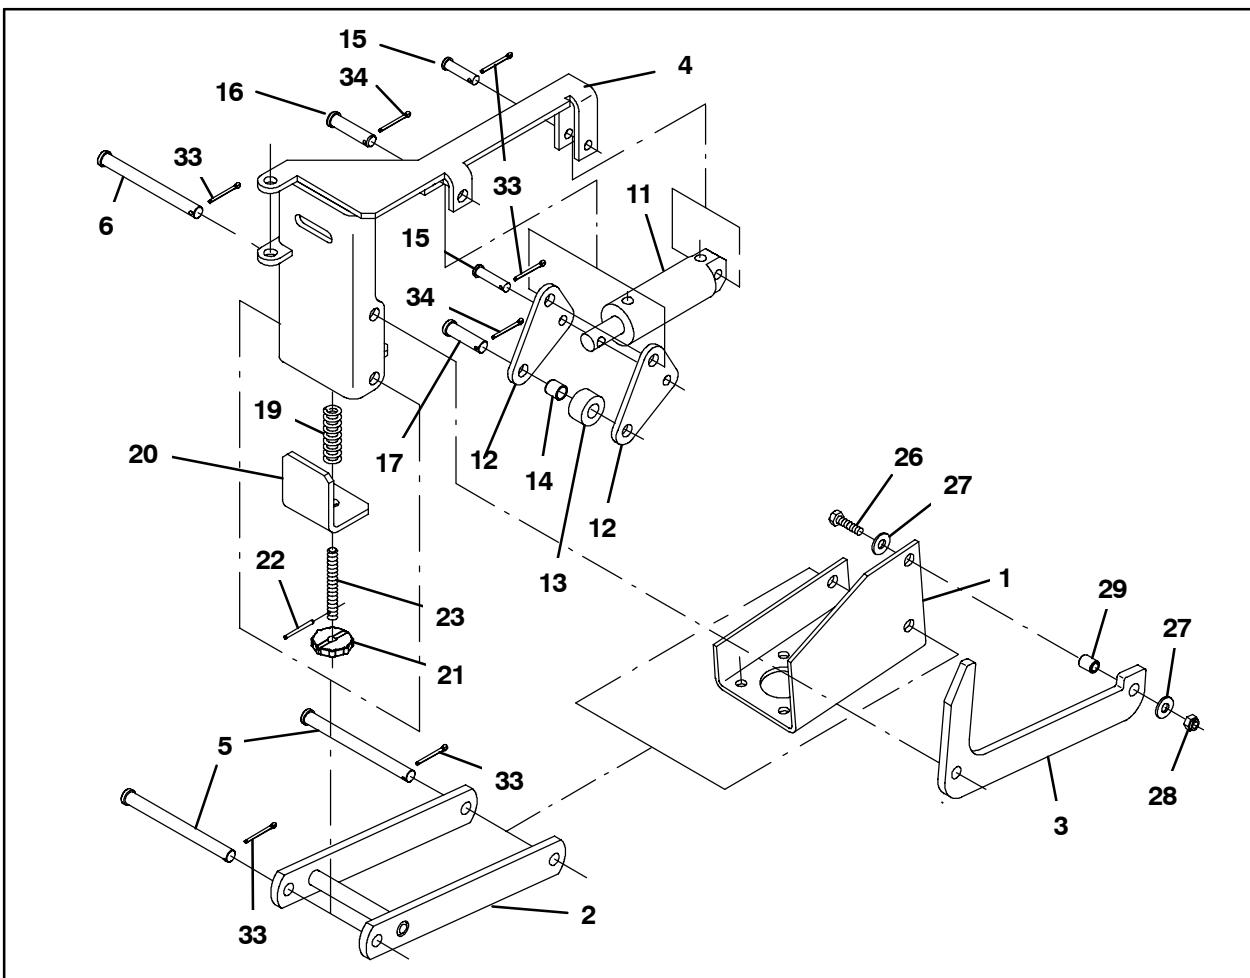

FIG. 2
3. Use a clevis pin (5) and a cotter pin (33) to install the side brush arm (2) onto the side brush motor mounting bracket (1). Refer to Fig. 2.
4. Use a hex screw (26), a sleeve (29), two flat washers (27), and a hex nut (28) to install the side brush linkage arm (3) onto the side brush motor mounting bracket (1). Refer to Fig. 2.
5. Use a roll pin (22) to install the threaded rod (23) into the knob (21). Refer to Fig. 2.
6. Use the knob assembly assembled in the previous step to install the steel angle (20) and spring (19) onto the side brush pivot (4). Refer to Fig. 2.
7. Use a clevis pin (5) and cotter pin (33) to install the side brush pivot (4) onto the side brush arm (2) and a clevis pin (6) and cotter pin (33) to install the side brush pivot onto the side brush linkage arm (3). Refer to Fig. 2.
8. Press a sleeve bushing (14) into the steel tube (13). Refer to Fig. 2.
9. Use a clevis pin (17) and cotter pin (34) to assemble the steel tube (13) onto the two brush lift levers (12). Refer to Fig. 2
10. Use a clevis pin (16) and cotter pin (34) to install the brush lift levers (12) onto the side brush pivot (4). Refer to Fig. 2.
12. Use a clevis pin (15) and cotter pin (33) to install the hydraulic cylinder (11) onto the side brush pivot (4) and a clevis pin (15) and cotter pin (33) to install the hydraulic cylinder onto the brush lift levers (12). Refer to Fig. 2.